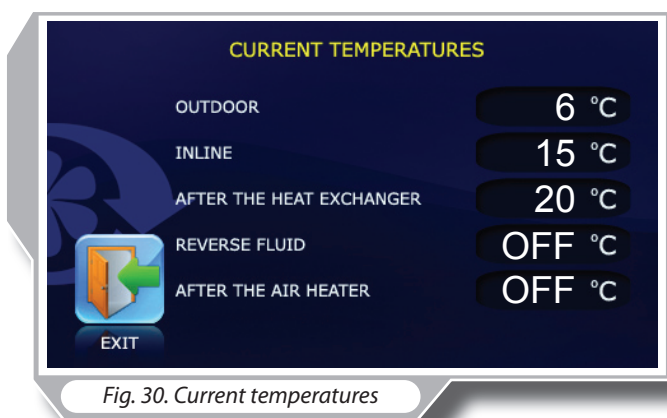

Fig. 30. Current temperatures
■ The display will show full current temperature details (fig. 30). The return heat medium temperature and air temperature at outlet from the heater are not displayed as those are not applicable for the unit with a water heater.